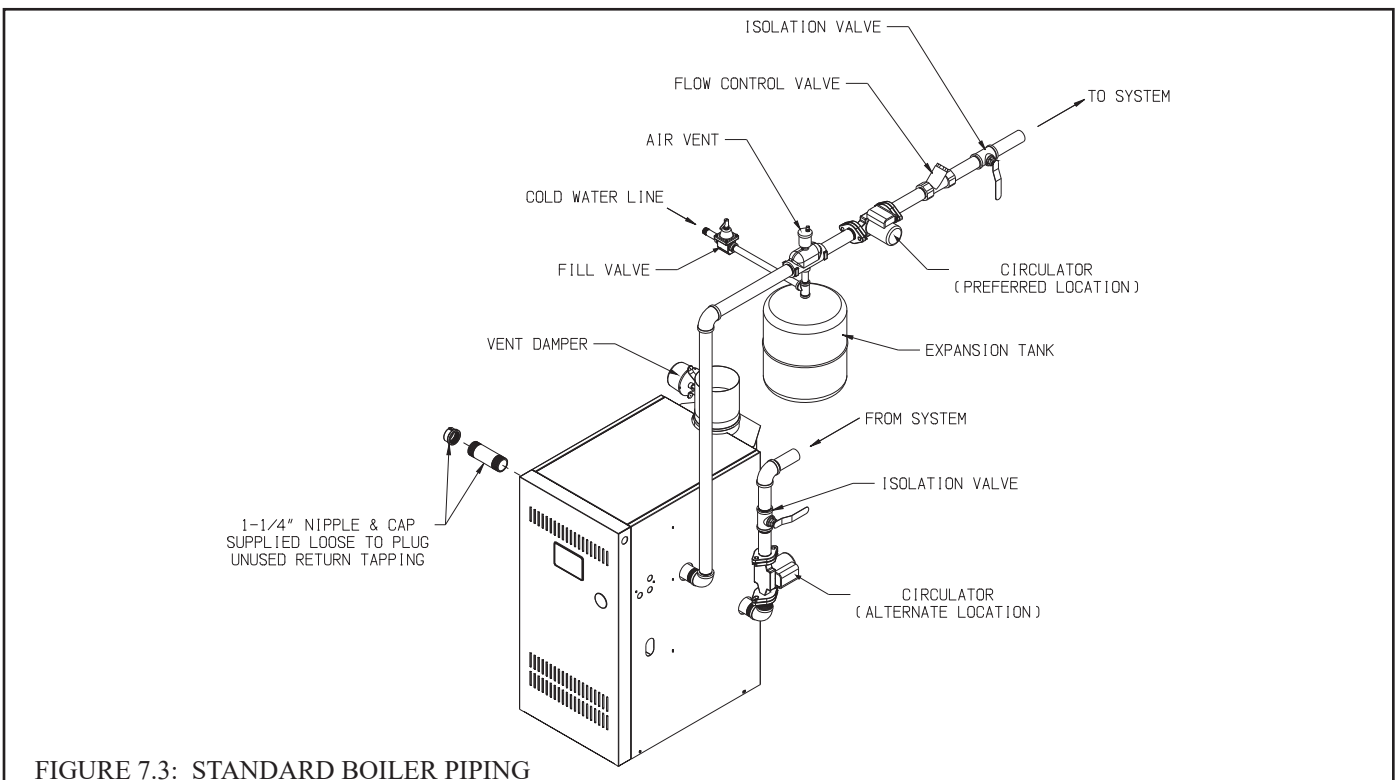

FIGURE 7.3: STANDARD BOILER PIPING
Figure 7.3 shows typical boiler system connections on a single zone system. Additional information on hydronic system design may be found in the *I=B=R Guide RHH* published by the Air-Conditioning, Heating and Refrigeration Institute (AHRI). The components in this system and their purposes are as follows:
- 2) Circulator (Required) - The circulator and circulator flanges are shipped loose with the boiler. The ideal location for the circulator is in the supply piping, just downstream of the expansion tank, however installation in the return as shown in Figure 7.3 is usually acceptable.